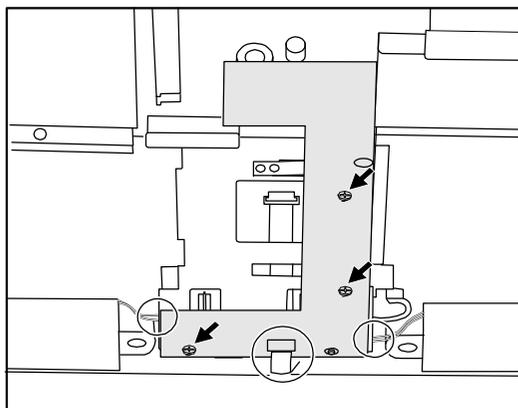

Figure 5-29. Removing the Battery/Touchpad Board
8. After removing the base frame, you will see the battery/touchpad board in between the speakers. To remove the board, first remove three screws and unplug three cables(Refer to Figure 5-29.), then lift it free from the system board.
- 1. Reconnect the battery/touchpad board to the system board. Plug three cables and secure the board with three screws. (Refer to Figure 5-29 earlier.)**